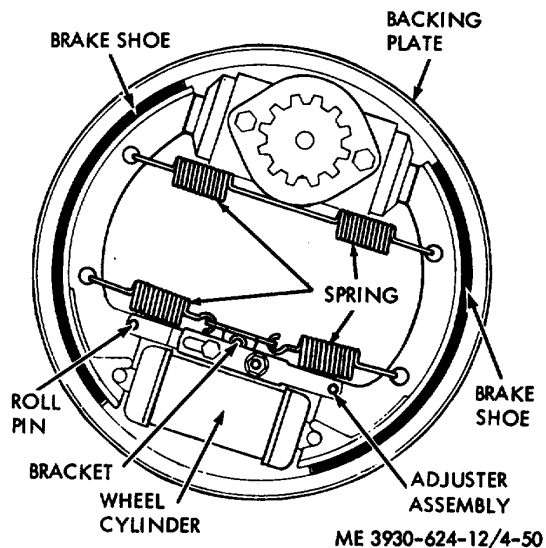

Figure 4-50. Self-adjusting brakes.
(3) Remove the upper and lower shoe return springs (fig. 4-50).